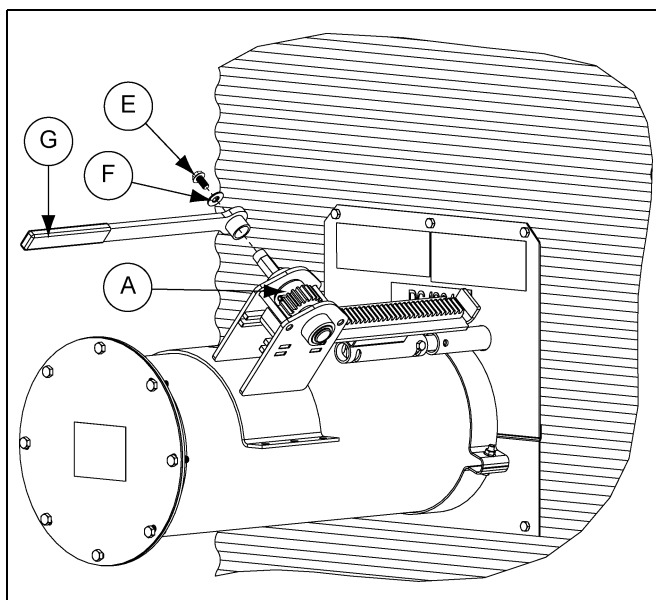

Figure 4O 8" and 10" Systems
4. Slide wrench over shaft on rack and pinion, making sure the collar faces the gears. Fasten down with 3/8" flat washer and 3/8" x 3/4" hex bolt. *(See Figure 4O.)*